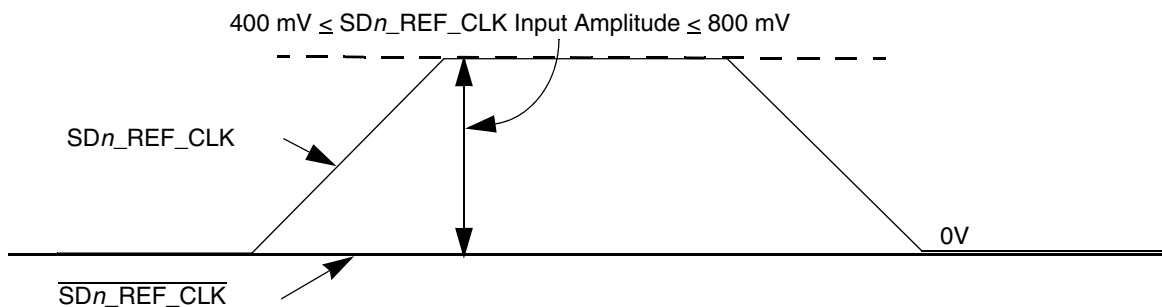

Figure 42. Single-Ended Reference Clock Input DC Requirements
- The  $SDn\_REF\_CLK$  input average voltage must be between 200 and 400 mV. Figure 42 shows the SerDes reference clock input requirement for single-ended signaling mode.